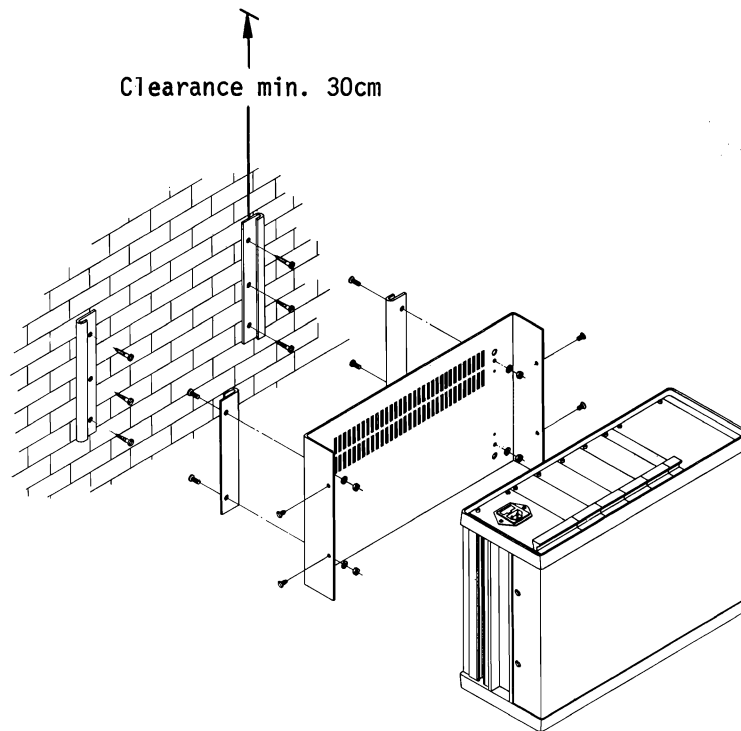

Fig. 5-2 Wall-mounting
- 3) Remount the cover without ventilation holes on the unit as shown in fig. 5-2.